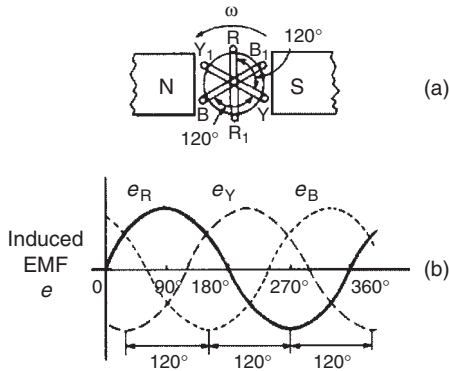

Figure 20.2
A **three-phase supply** is generated when three coils are placed 120° apart and the whole rotated in a uniform magnetic field as shown in Fig. 20.2(a). The result is three independent supplies of equal voltages which are each displaced by 120° from each other as shown in Fig. 20.2(b).
- (i) The convention adopted to identify each of the phase voltages is: R-red, Y-yellow, and B-blue, as shown in Fig. 20.2
If the three-phase windings shown in Fig. 20.2 are kept independent then six wires are needed to connect a supply source (such as a generator) to a load (such as motor). To reduce the number of wires it is usual to interconnect the three phases. There are two ways in which this can be done, these being: